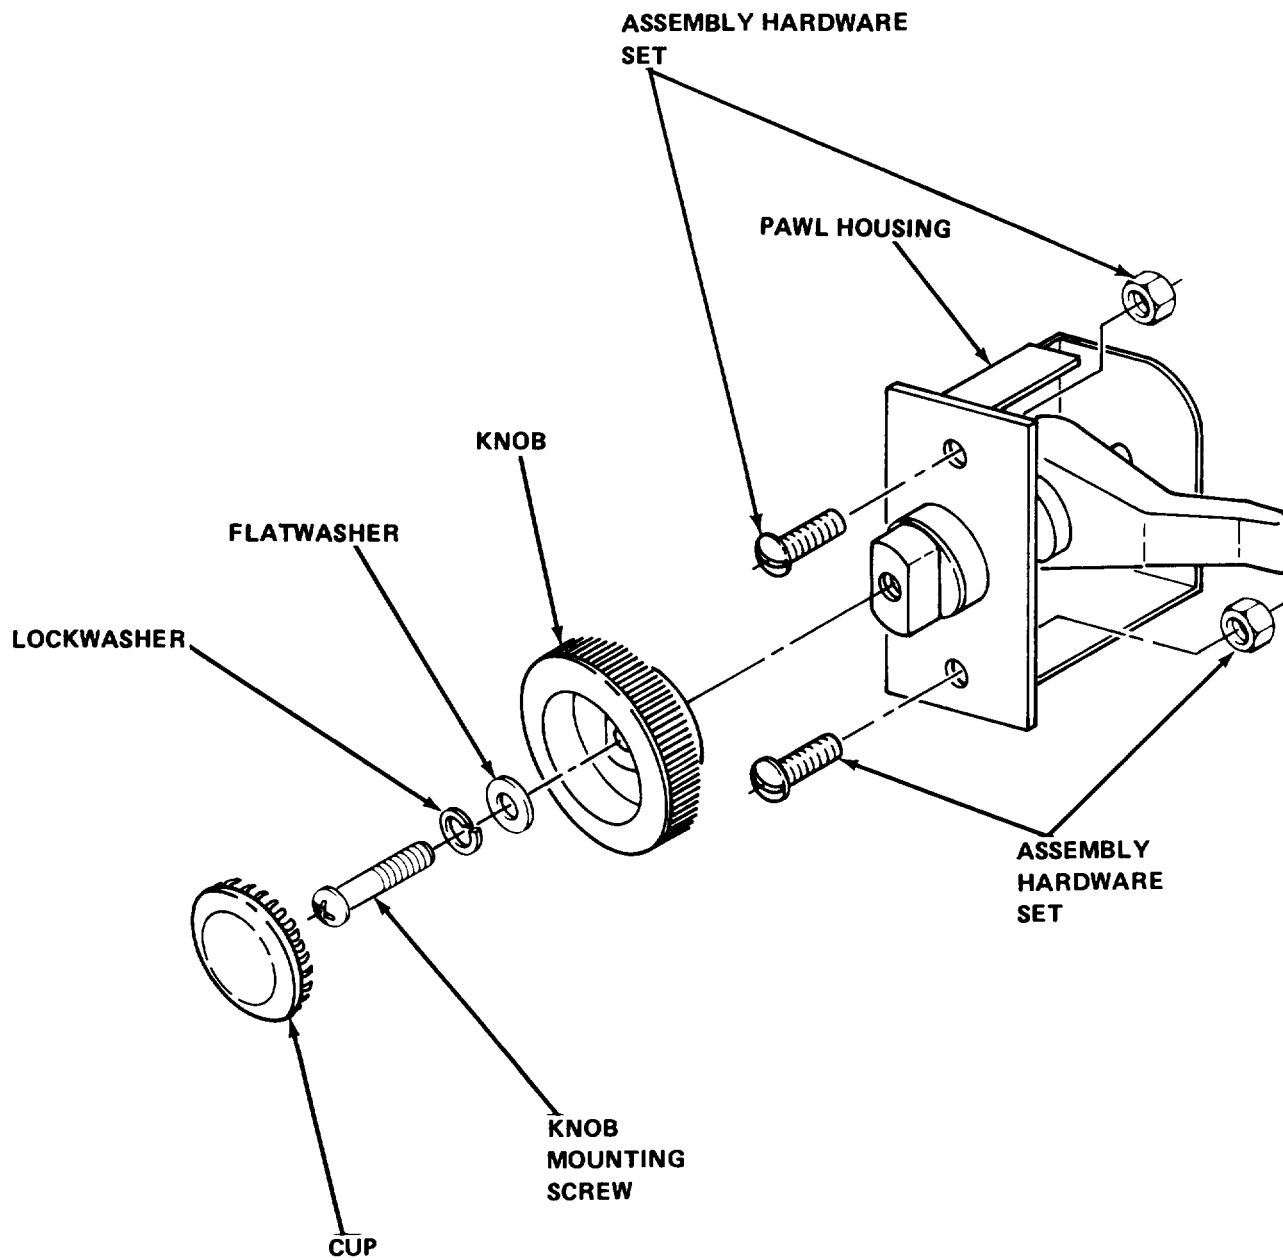

Figure 7-3. Pawl Fastener Assembly
- (1) Open cabinet door.
- (2) Remove knob cap. Refer to figure 7-3.
- (3) Remove knob mounting screw, lock washer, and flat washer.
- (4) Remove the two assembly hardware sets.
- (5) Remove fastener housing from inside of door.
- (6) Insert new fastener housing; install the two assembly hardware sets.
- (7) Install knob with mounting screw, lock washer, and flat washer.
- (8) Install knob cap.
- (9) Close cabinet door.